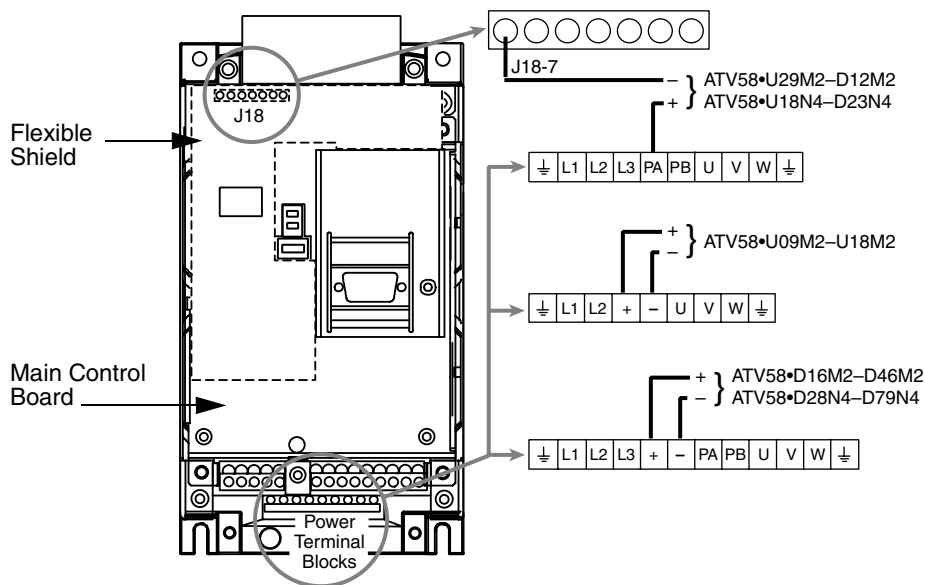

Figure 25: DC Bus Measurement Terminals
The DC bus voltage level is determined by monitoring the (+) and (–) measurement points. Their location varies by drive controller model number as listed in Table 24 and shown in Figure 25. The drive controller model number is listed on its nameplate.
3. Read the model number of the drive controller from the nameplate and identify the corresponding (+) and (–) measurement points from Table 24 and Figure 25.